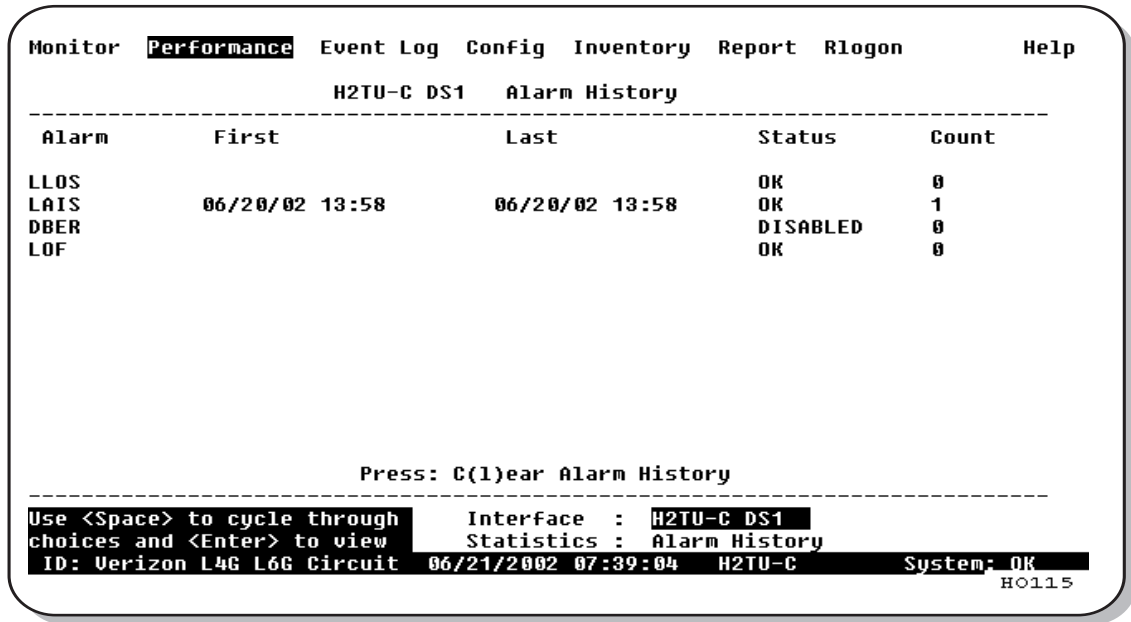
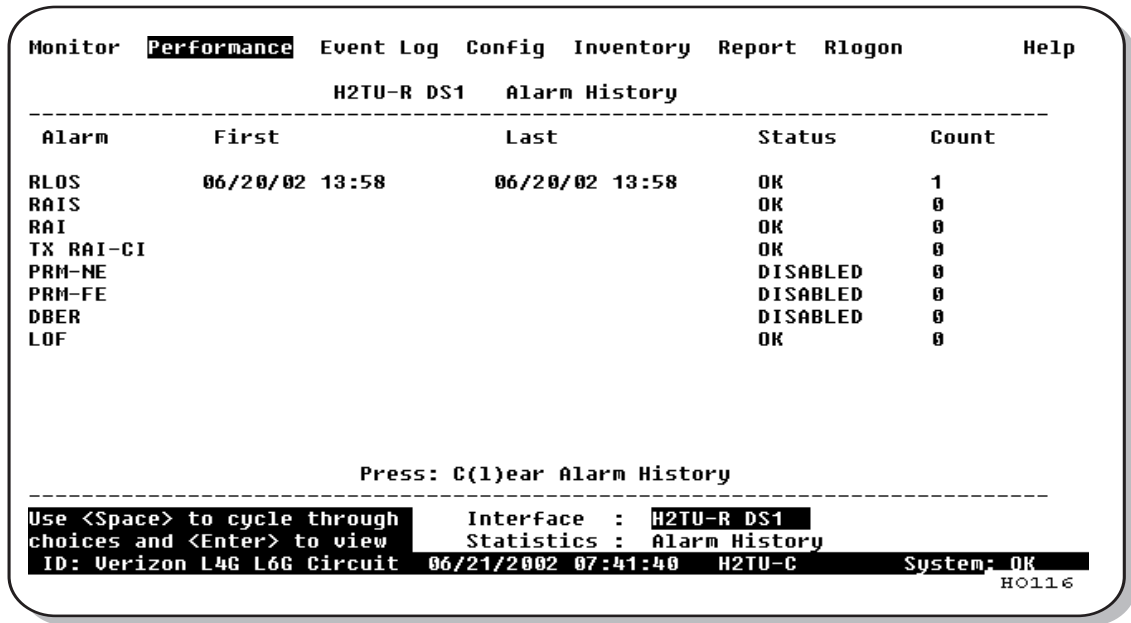

Figure 21. H2TU-C DS1 Alarm History Screen
Figure 22. H2TU-R DS1 Alarm History Screen
- Alarm statistics for the DS1 interfaces (Figure 21 on page 35 and Figure 22 on page 35) or HDSL2 interfaces (Figure 23 on page 37) on a continuous basis.
The Alarm History screen reports on a continuous basis the DS1 statistics for the H2TU-C (Figure 21 on page 35) and the H2TU-R (Figure 22 on page 35). The types of alarms reported are described in Table 16 on page 34. Current alarms are shown in reverse video.
H2TU-C DS1 Alarms (see Figure 21 on page 35)
H2TU-R DS1 Alarms (see Figure 22 on page 35)